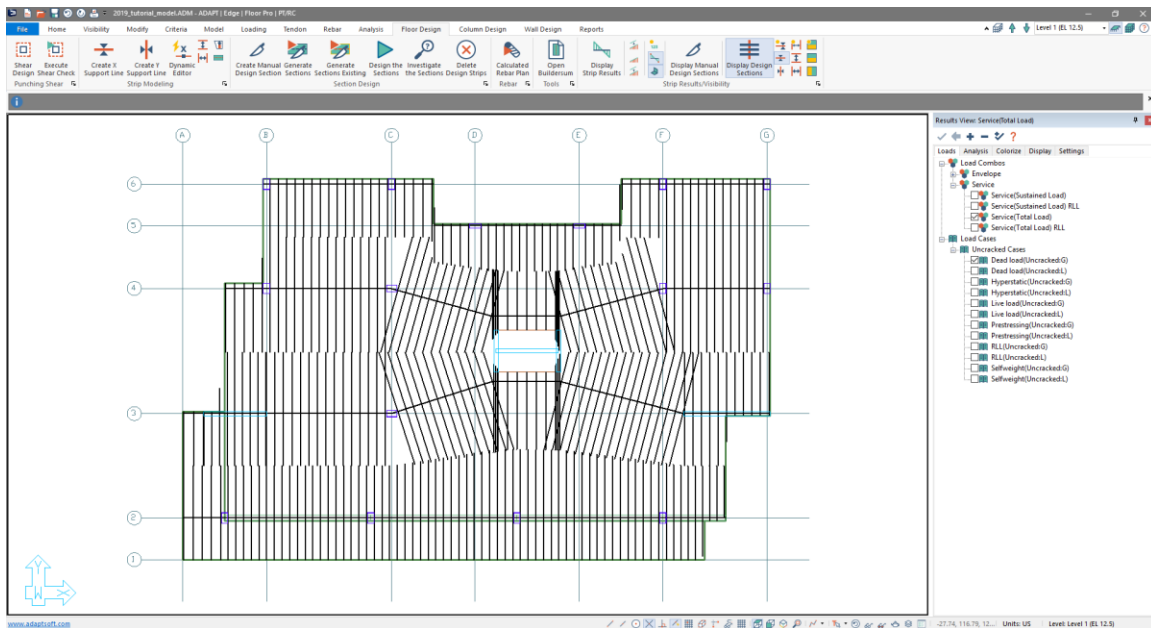

Figure 9-77
- Click **OK** to close the window. The user's screen should now be similar to **FIGURE 9-77**.